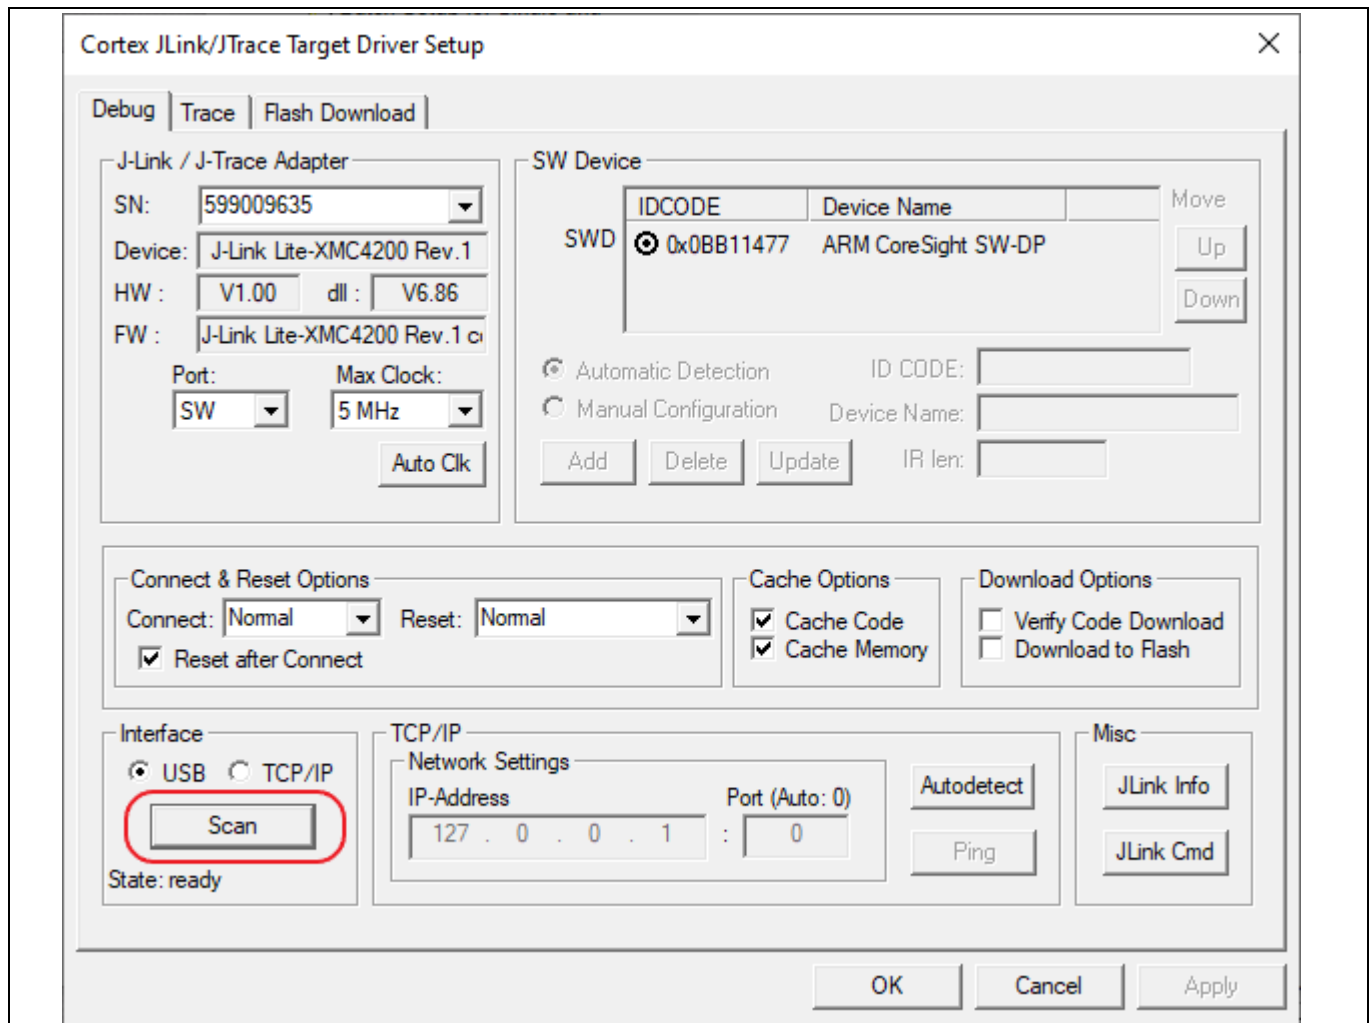

Figure 8 Keil µVision® IDE JLink/JTrace Setup Window
- 5) Then click the “Settings” button and under the “Debug” tab click “Scan” in the interface section for USB. A software device should be seen if the iMOTION™ Link is connected properly as shown in Figure 8. Make sure the port used for the device is a “SW” port.